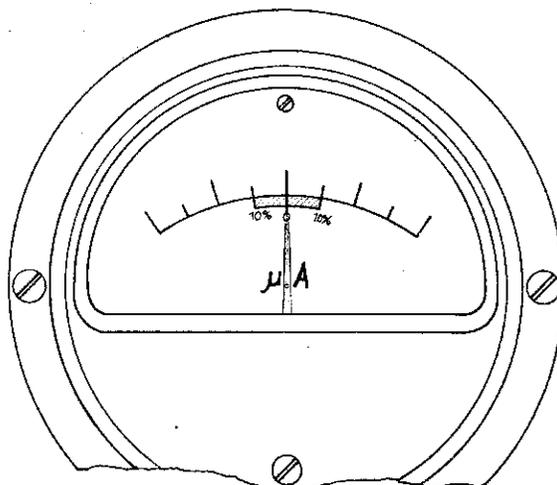

Fig. 4
- 1.2 If the grid bias is correctly set, the needle of the ammeter must indicate zero per cent (the zero mark), as shown in fig. 4.